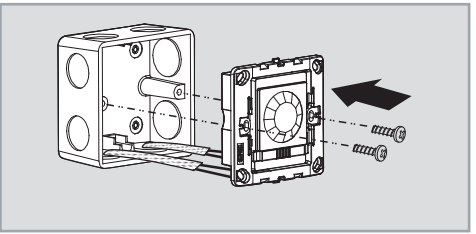
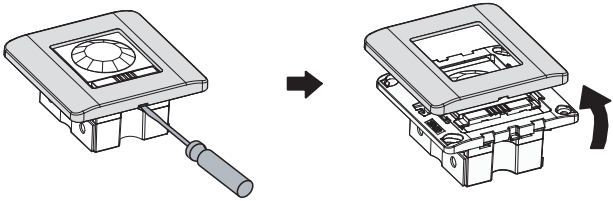

FIG.10
FIG.13
3.3.5 Dismantle the frame (See FIG.13) and put the sensor with wired power box into the Asian junction box, then fix the sensor on it with two M3.5 x 25mm mechanical screws (See FIG.10).
4.1.1 Use a screwdriver as shown in FIG.13 to take off the decorative frame slightly.